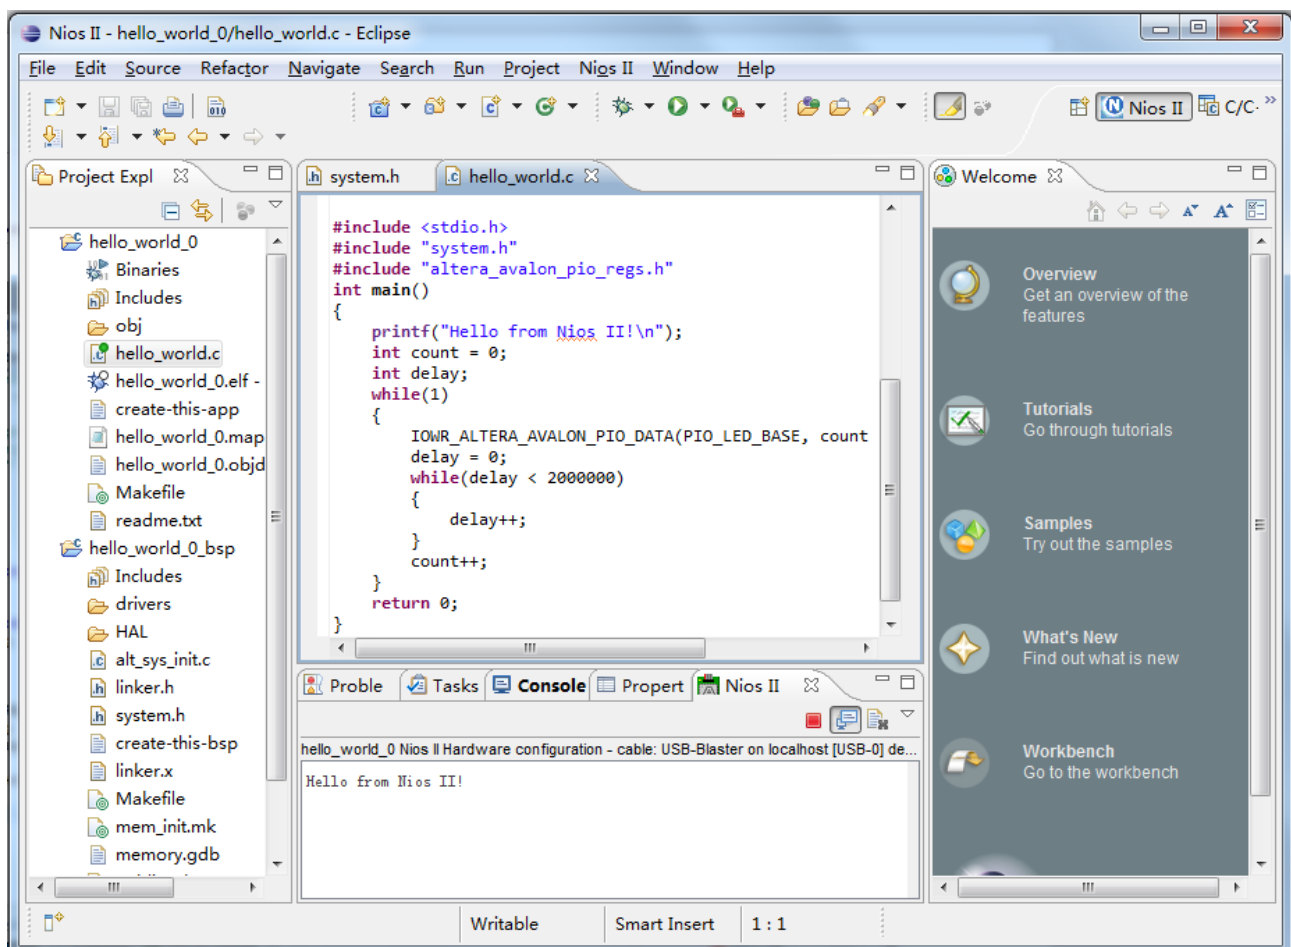

Figure 2-8 Set Breakpoint
1. In the `hello_world.c`, double-click the front of the line which is needed to set breakpoint. See Figure 2-8.